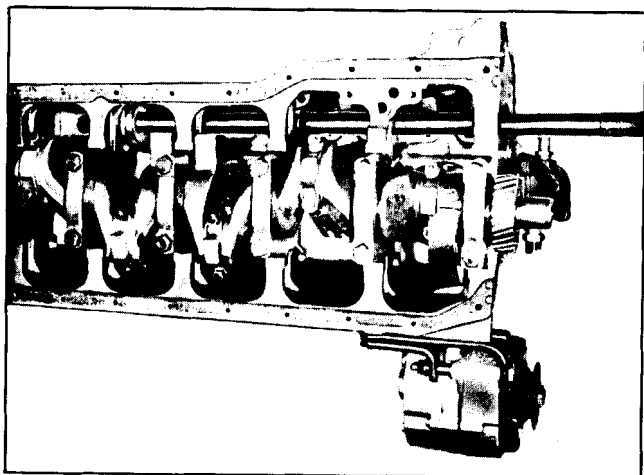

Fig. 6-133 Procedure for Removing and Installing Camshaft Bearings, L-6 and V-8
- b. Install extension J-21054 on intaller J-21473-1 and drive center three bearings out toward rear (Fig. 6-133).